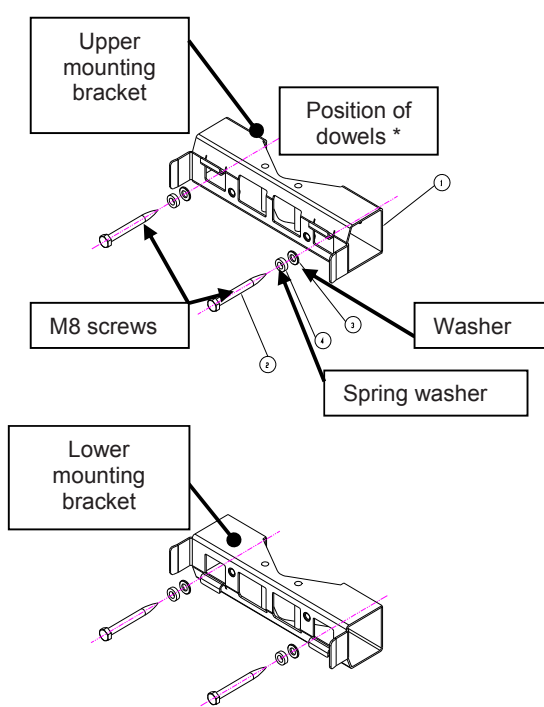

figure 3-2 Mounting bracket installation
- Screw the mounting brackets to the wall / dowels using the four dowel screws as illustrated in *figure 3-2 Mounting bracket installation*.
- For each bracket, first screw in the 2 washers, then the 2 spring washers, then the 2 M8x80 screws (see also *figure 3-2 Mounting bracket installation*).